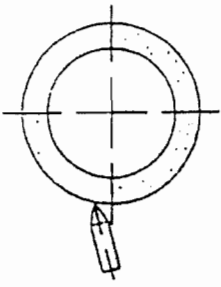

Fig 16-1
1. Form a correct angle between the new diamond dresser and the wheel (approx. 5 degree) (see figure 16-1).